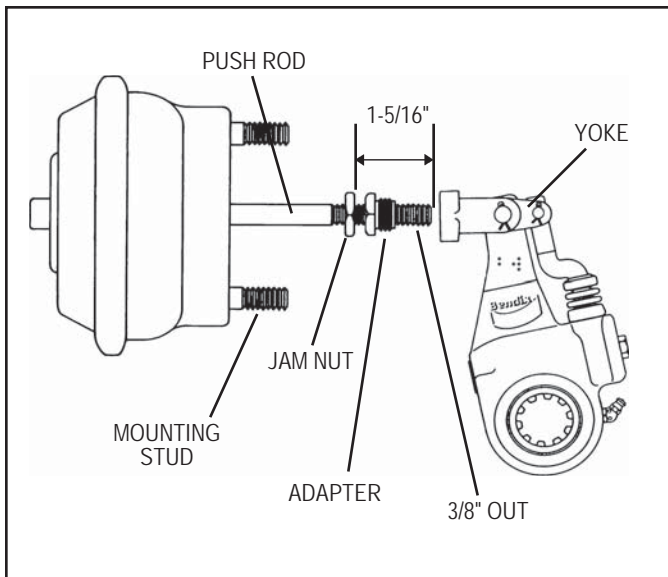

FIGURE 3 - EASY-ON YOKE ASSEMBLY
EASY-ON YOKE (REFER TO FIGURE 3)
3. If the ASA-5® slack adjuster has the easy-on yoke (see Figure 3), position the brake actuator push rod jam nut approximately 1-5/16 inches from the end of the brake actuator push rod. Thread the easy-on yoke adapter on the brake actuator push rod until it is approximately 3/8 inch from the end of the brake actuator push rod end. Turn the ASA-5® slack adjuster manual adjustment hex clockwise until the adapter extends into the threaded bore of the yoke approximately 1/8 inch. Thread the adapter into the yoke and tighten to 10 foot pounds.